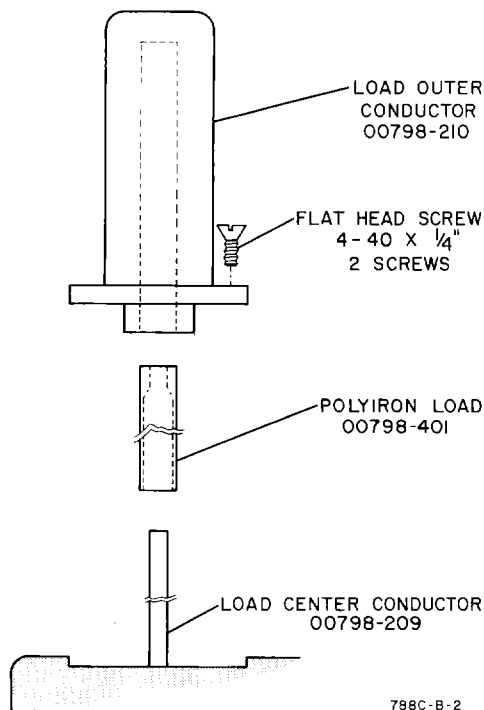
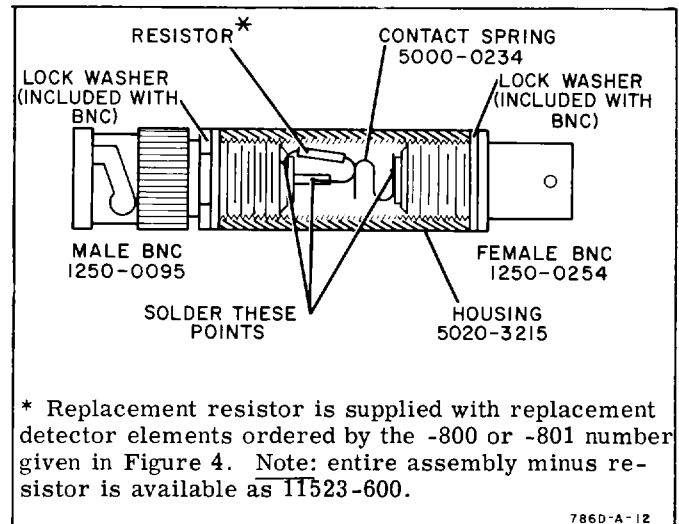

Figure 5. 788C Load Assembly
Figure 6. 11523A Cutaway View
21. Succeeding paragraphs give instructions for repair of the directional detector and the 11523A (Option 02) Load Resistor. Figure 4 illustrates the replaceable detector assembly for the 786D, 787D, and 788C. Figure 5 illustrates the replaceable load assembly for the 788C, 786D and 787D load assemblies are not field-replaceable. Figure 6 and 7 illustrate the replaceable 11523A load resistor assembly. Stock numbers required when ordering replacement parts are given in the respective assembly illustrations. To order a replacement part, address order of inquiry to your local Hewlett-Packard sales and service office (see listings at the rear of this Note).
a. Refer to Figure 5. Remove two retaining screws and the load outer conductor.
a. Refer to Figure 6. Unscrew male BNC and lockwasher from housing by using a 3/8-inch open-end wrench and holding housing either in a vise or with gas pliers.